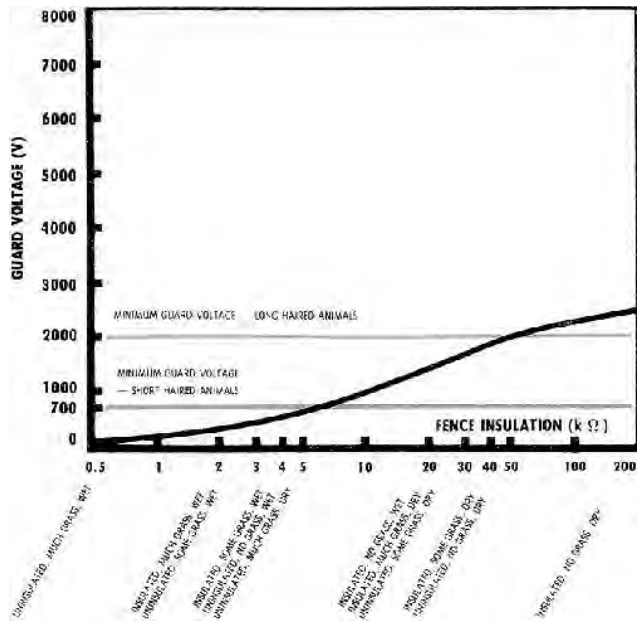

FIGURE 1. Guard Voltage Produced on a 5.4 km Single Wire Fence.
**Peak Voltage Output:** FIGURES 1 and 2 show peak voltage outputs of the Dyna-Charge Super 21 for 5.4 and 16 km (3.3 and 10 mi) lengths of single wire fence over a range of insulation resistances. On a 5.4 km (3.3 mi) fence (FIGURE 1), peak voltage output varied from 2460 V for a well-insulated, grass-free, dry fence to 70 V for an uninsulated, wet fence with considerable grass touching the charged wire. The voltage output was above the 700 V minimum guard voltage needed for short-haired animals for most fence conditions, while it was above the 2000 V minimum guard voltage needed for long-haired animals for fence insulation values greater than 50 k $\Omega$ .
As can be seen from FIGURES 1 and 2, wet weather reduced